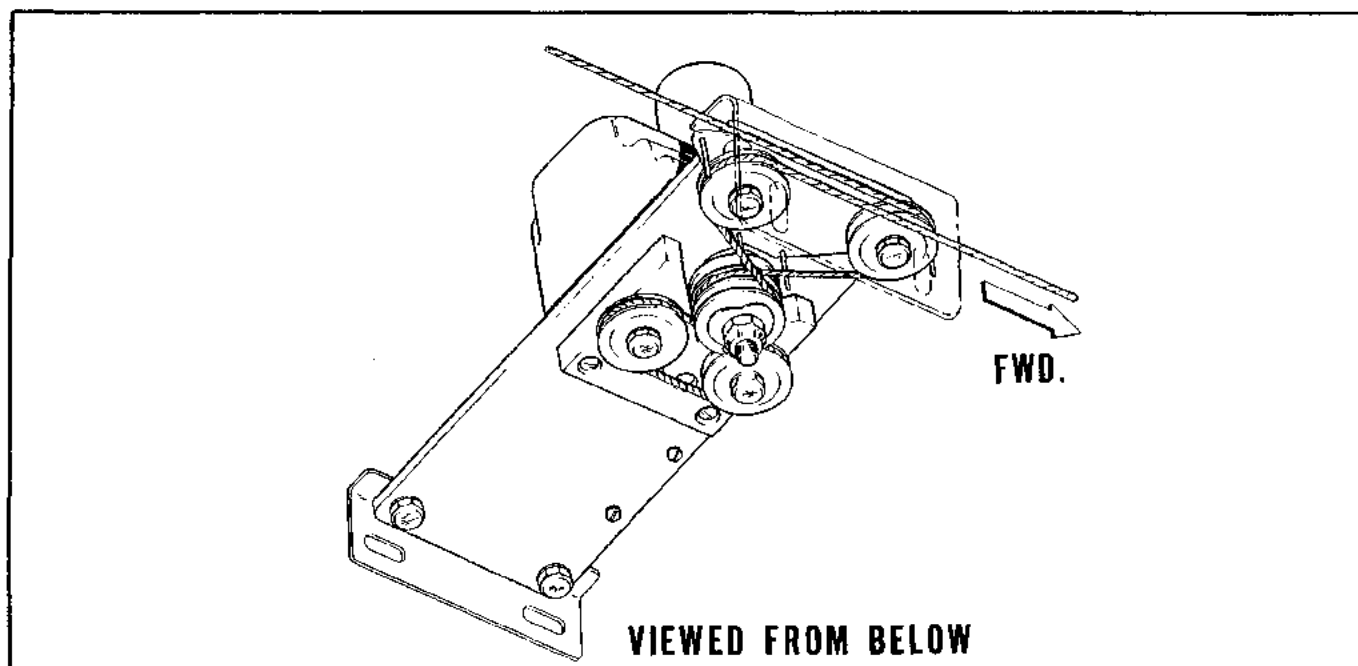

Figure 3-35. Pitch Trim Servo Installation, PA-44-180
**3-142. INSTALLATION OF PITCH TRIM SERVO. (PA-44-180) (Refer to Figure 3-35.)**